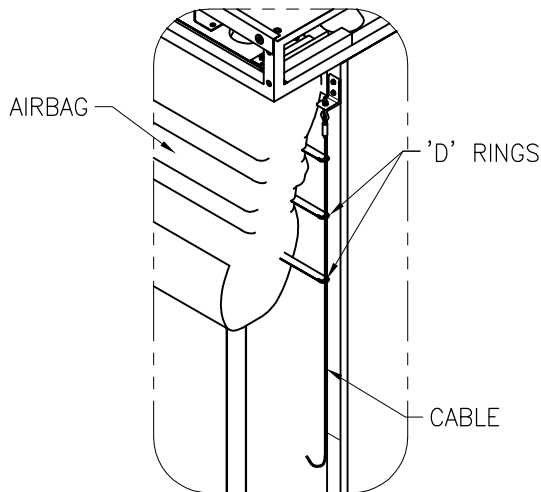

fig. 3
- a. Feed cable through 'D' rings on side of headerbag (see fig. 3).